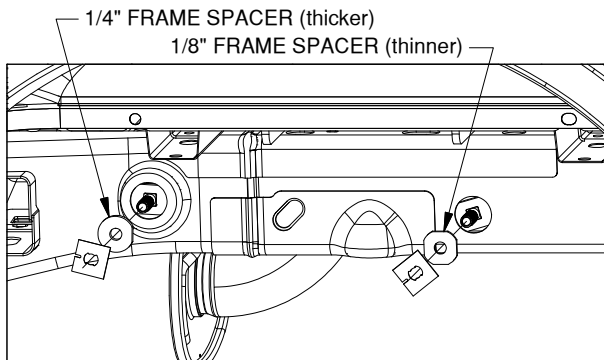

Figure C3: View of driver side wheel well.
- 2. Install frame spacers.** Install a frame spacer into each hole. The 1/8" (thinner) frame spacer will install in the rear hole in the frame and the 1/4" (thicker) frame spacer will install in the forward hole. To prevent the carriage bolts from falling into the frame thread a 1/2" retainer onto each bolt until it is snug against the frame, see figure C3. Repeat steps 1 & 2 on the other side of the truck.